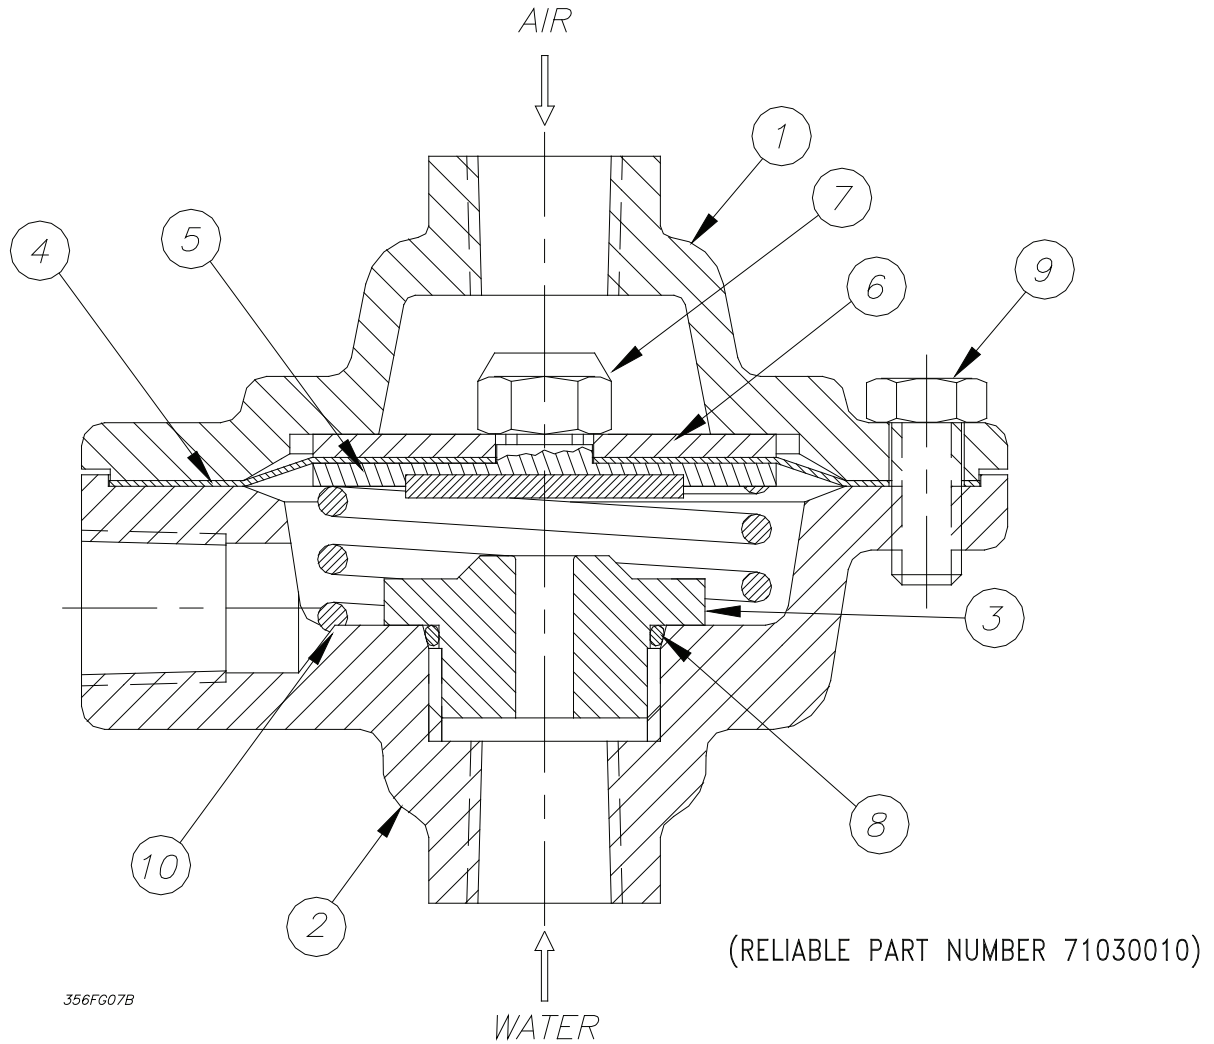

Fig. 8
3. Remove all six bolts (#9, Fig. 8) holding the Actuator together. Clean or replace the facing plate assembly (#5, Fig. 8) and seat (#3, Fig. 8).
4. Reassemble the Actuator, using a torque of 8 ft-lbs on the facing plate nut (#7, Fig. 8) and 12 ft-lbs on the six bolts (#9, Fig. 8). Use a cross-tightening pattern. Reinstall the Actuator. Set up the Model DDX Deluge Valve as per the section "Resetting the Type F Double Interlock Preaction System."